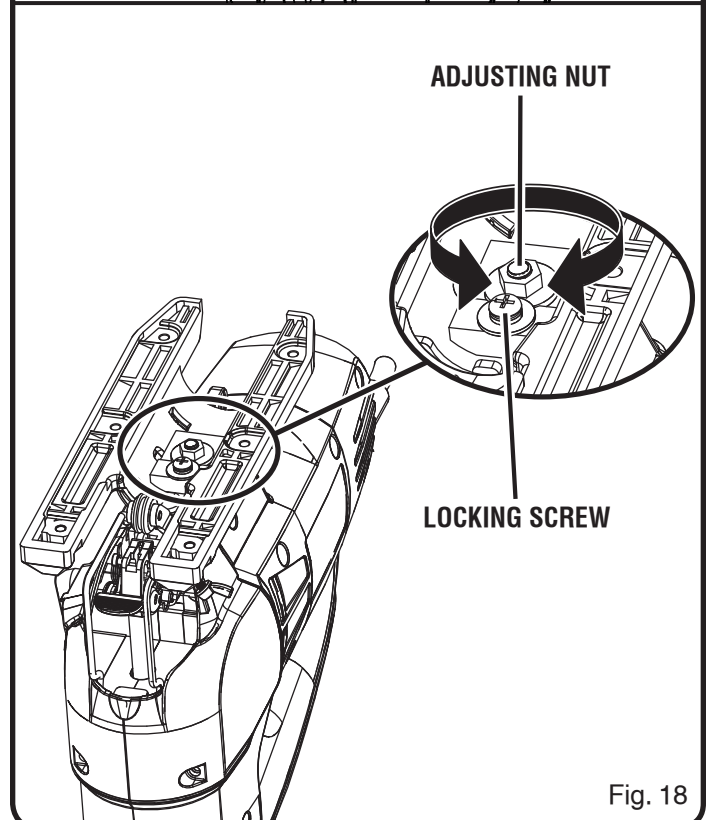

Fig. 18
- Loosen the locking screw. It is not necessary to remove the screw from the base. See figure 18.